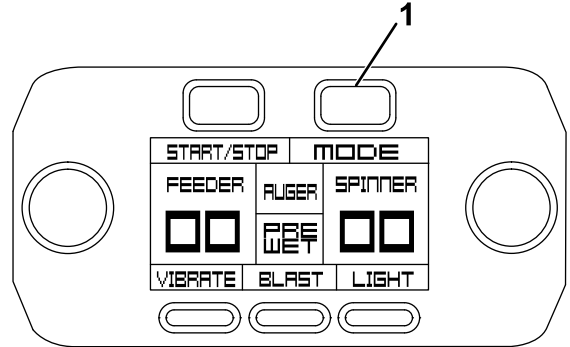

Figure 43
1. To activate the pre-wet system, press the Mode button on the controller (Figure 43).